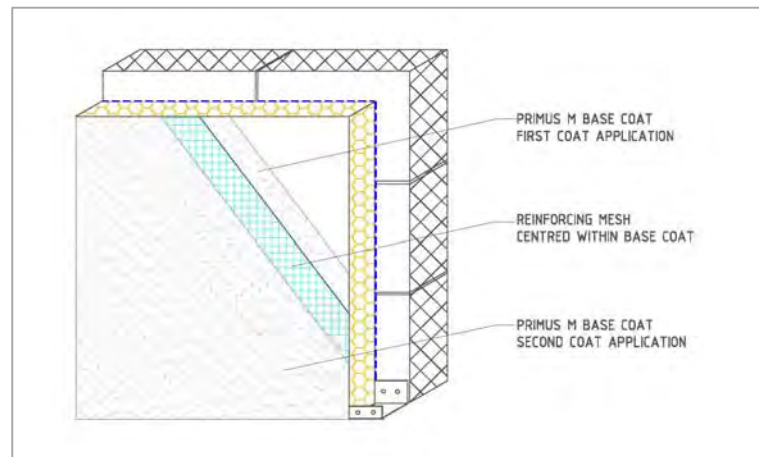

Figure No. 2
- b. The base coat shall be applied such that the resulting overall minimum base coat thickness is sufficient to **fully embed** the reinforcing mesh. The recommended method is to apply the base coat in two (2) passes.
- 3) Allow the base coat mixture to take up until firm to the touch. Trowel a second tight coat of the base coat mixture over the first coat to **fully cover** the reinforcing mesh (see Figure No. 2). The result should be such that the reinforcing mesh is approximately centred within the base coat thickness. Do not allow the first pass too completely dry prior to the second pass application or an excessive amount of base coat mixture will be necessary to fully coat the wall surface.